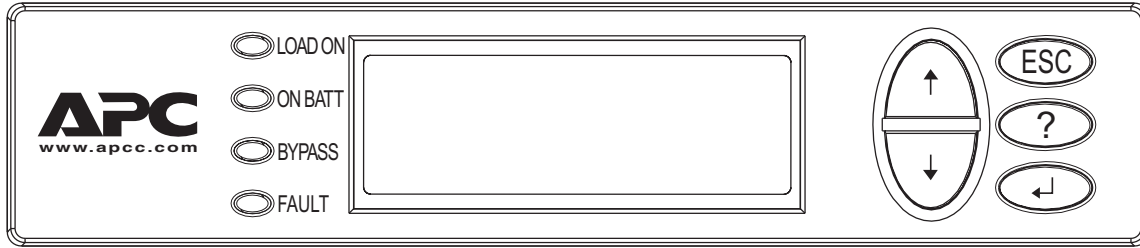

Figure 2: PowerView RM Interface
- Figure 2: PowerView RM Interface 2
The PowerView RM interface includes an alphanumeric liquid crystal display (LCD) screen, five navigation keys, four light-emitting diode (LED) indicators, and an audible alarm beeper. Figure 2 shows the front panel of PowerView RM.